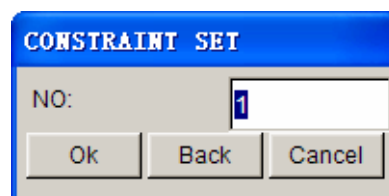

Figure 3.28: CONSTRAINT SET dialog box
- 2) Select the type of XZ SYMMETRY from the constraint type list "Type", which indicates the part is symmetry about the XZ plane. Click "Create", then pop up the dialogue window of SPC SET NUMBER, click "OK" to accept the default value. See figure 3.28.